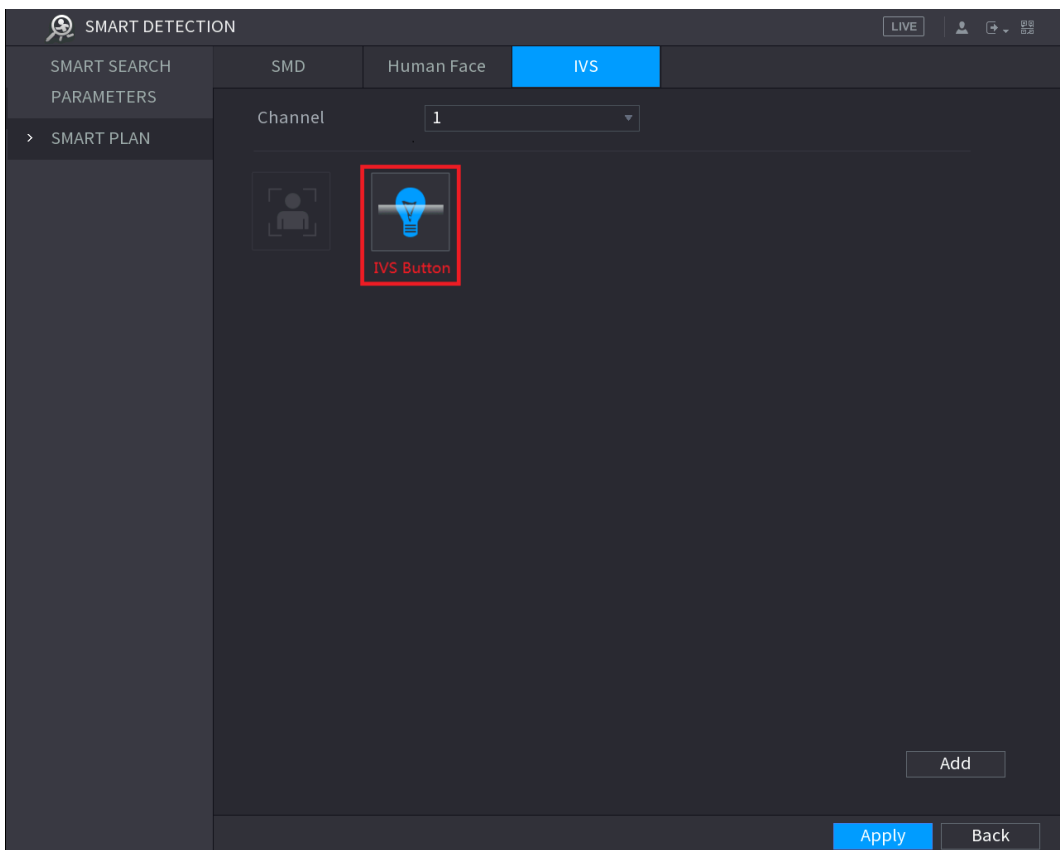

Figure 5-167
- For the IP camera without preset, see Figure 5-167.